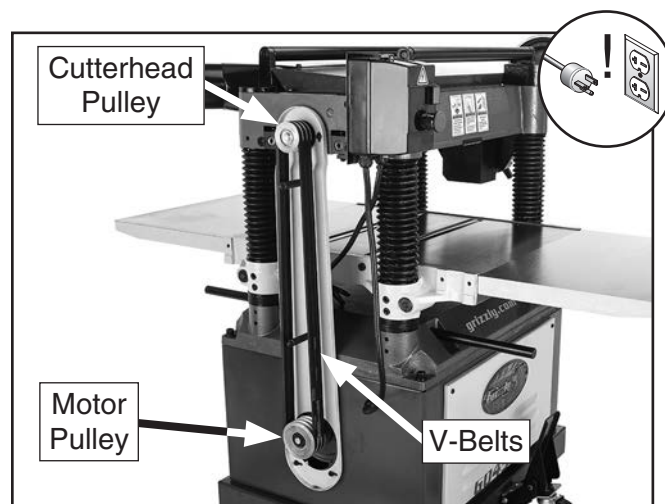

Figure 58. Belt cover removed to expose V-belts and pulleys.
2. Remove V-belt cover from left side of machine to expose belts, as shown in **Figure 58**.